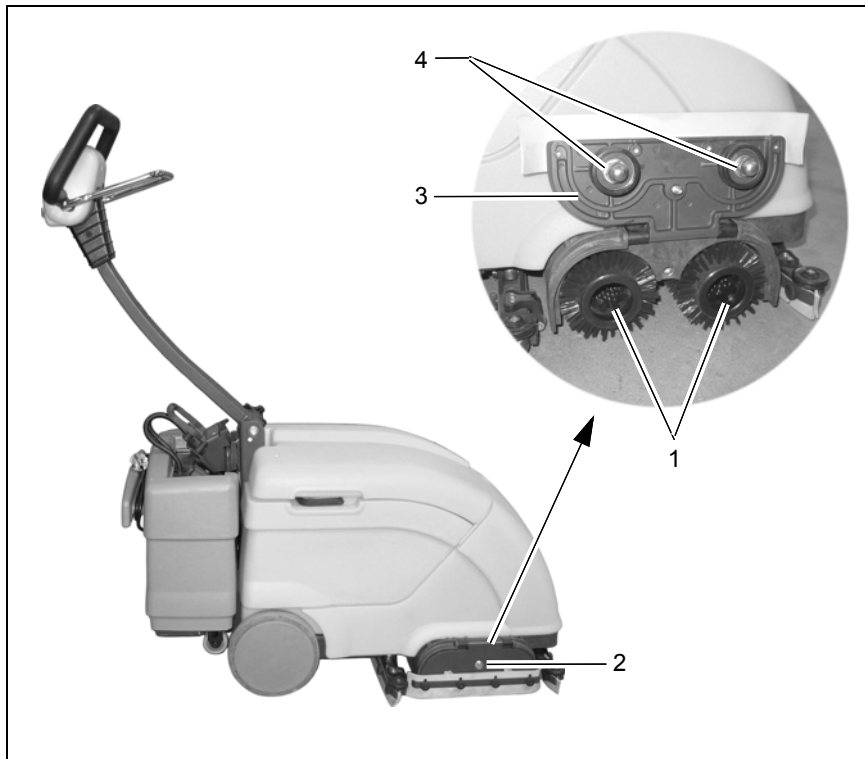

Fig.18
Check the brush head daily and clean or change the brushes (Fig. 18/1) as necessary.
3. Loosen the slotted-head screw (Fig. 18/2) with a coin and pivot the cover (Fig. 18/3) upwards.
4. Remove the brushes (Fig. 18/1) from the brush head.
When installing the brushes, pay attention that they latch securely and properly in the catches (Fig. 18/4) provided.
Check the squeegee (Fig. 18/1) daily and clean it as necessary .
Check the rear (Fig. 18/2) and front (Fig. 18/3) sealing strips on the squeegee weekly for signs of wear. The sealing strips can be changed without the need of tools.
3. Unscrew the knurled screws (Fig. 18/4) and remove the support strips (Fig. 18/5).
4. Check the rear (Fig. 18/2) and front (Fig. 18/3) sealing strips, change as necessary.
The rear sealing strips (Fig. 18/1) can be turned when worn.